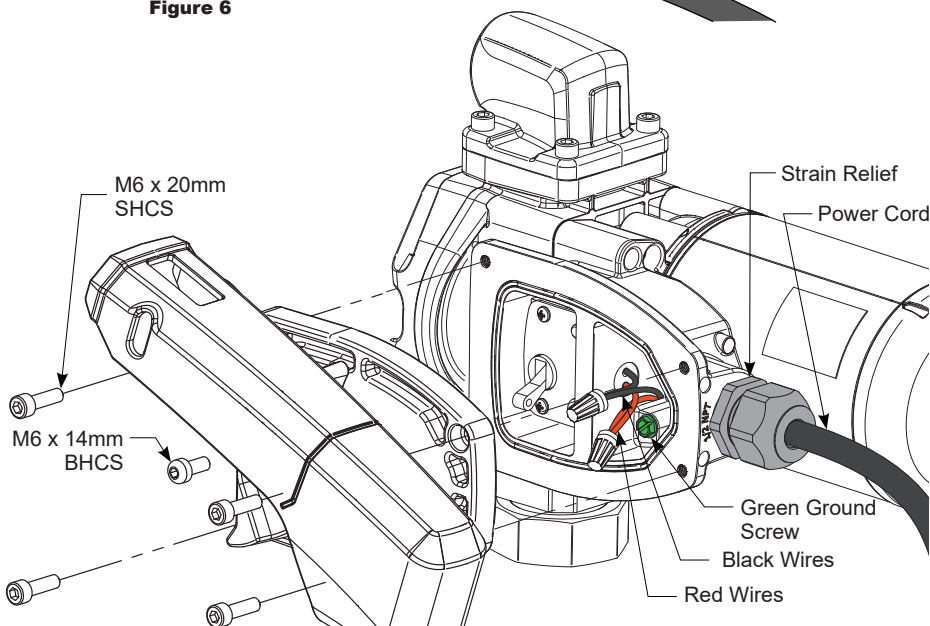
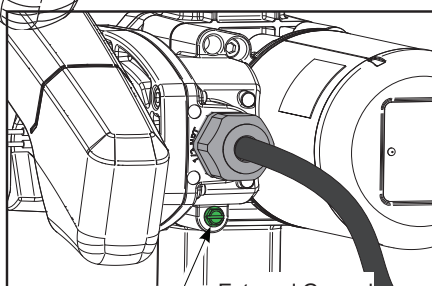

Figure 7
Figure 7a
To install the power cord, remove the (4) M6-1.0 x 20mm SHCS and electrical coverplate (see Figure 7).
Insert the power cord through the 1/2 inch NPT connection on the back of the pump (see Figure 7). Using wire nuts, connect the black wire to the black wire and the red wire to the red in the pump's electrical cavity. Position the wires inside the electrical cavity and tighten the strain relief grip securely. Make sure surfaces are clean. Reinstall the electrical coverplate and switch lever, and tighten securely.
A grounding connection is provided. It is identified as a green colored binding head screw in the electrical cavity (see Figure 7): an external ground can be used instead. When using the external ground for the G20-012PO/B08 (Zone 1 or 2), the installer **must** use a ground wire with a minimum cross-sectional area of 4mm². To use external ground, remove green ground screw from electrical cavity and install in location shown (see Figure 7a).